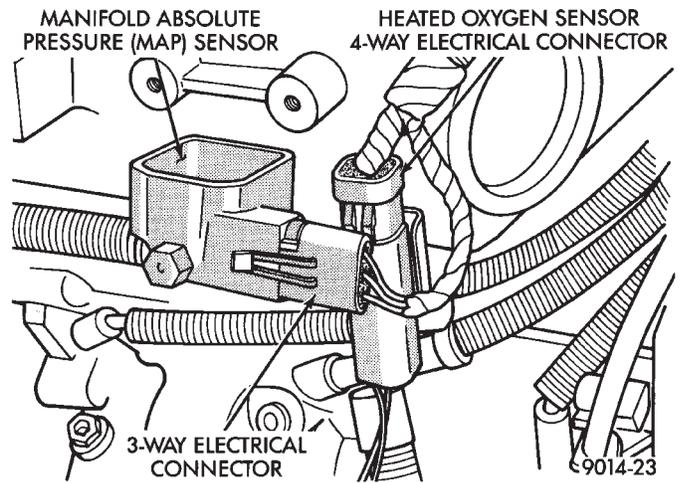

Fig. 6 MAP Sensor Electrical Connector
- (11) Disconnect MAP Sensor and heated Oxygen Sensor electrical connection. Remove the engine mounted ground strap (Fig. 6).